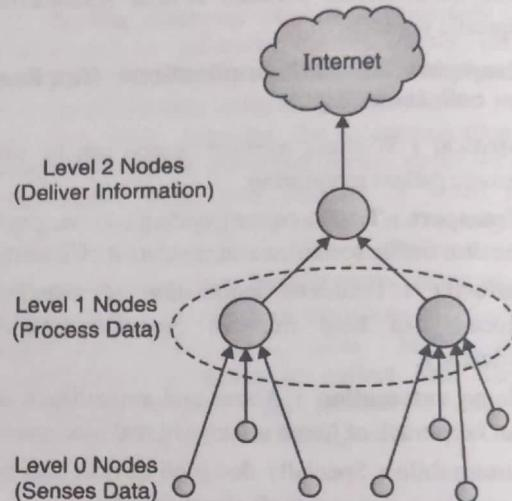

Fig. 3.4.1 : Simple WSN Architecture
- This data is processed and provided to the end user in upper layers as shown in Fig. 3.4.1.